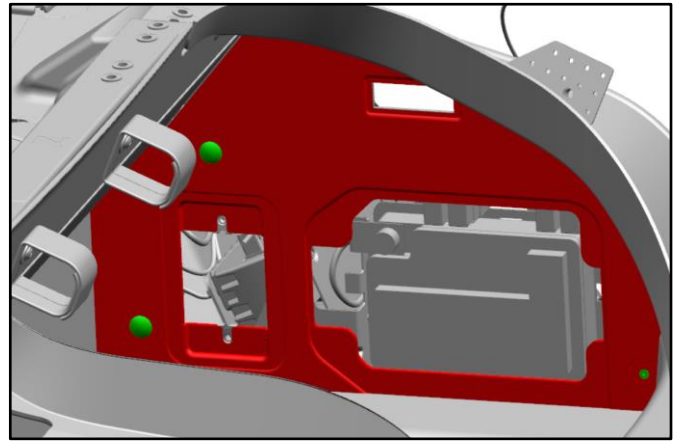

Figure 5
10. Remove the screw and the two fir tree clips that attach the side panel of the luggage compartment to the vehicle. (Refer to Figure 5.)